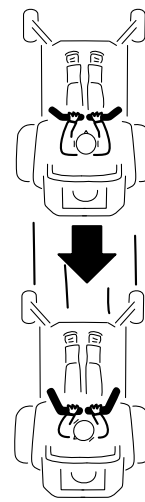

Figure 22
2. To go backward, look behind you and down as you slowly pull the motion control levers rearward (Figure 22).
To go straight, apply equal pressure to both motion control levers (Figure 22).